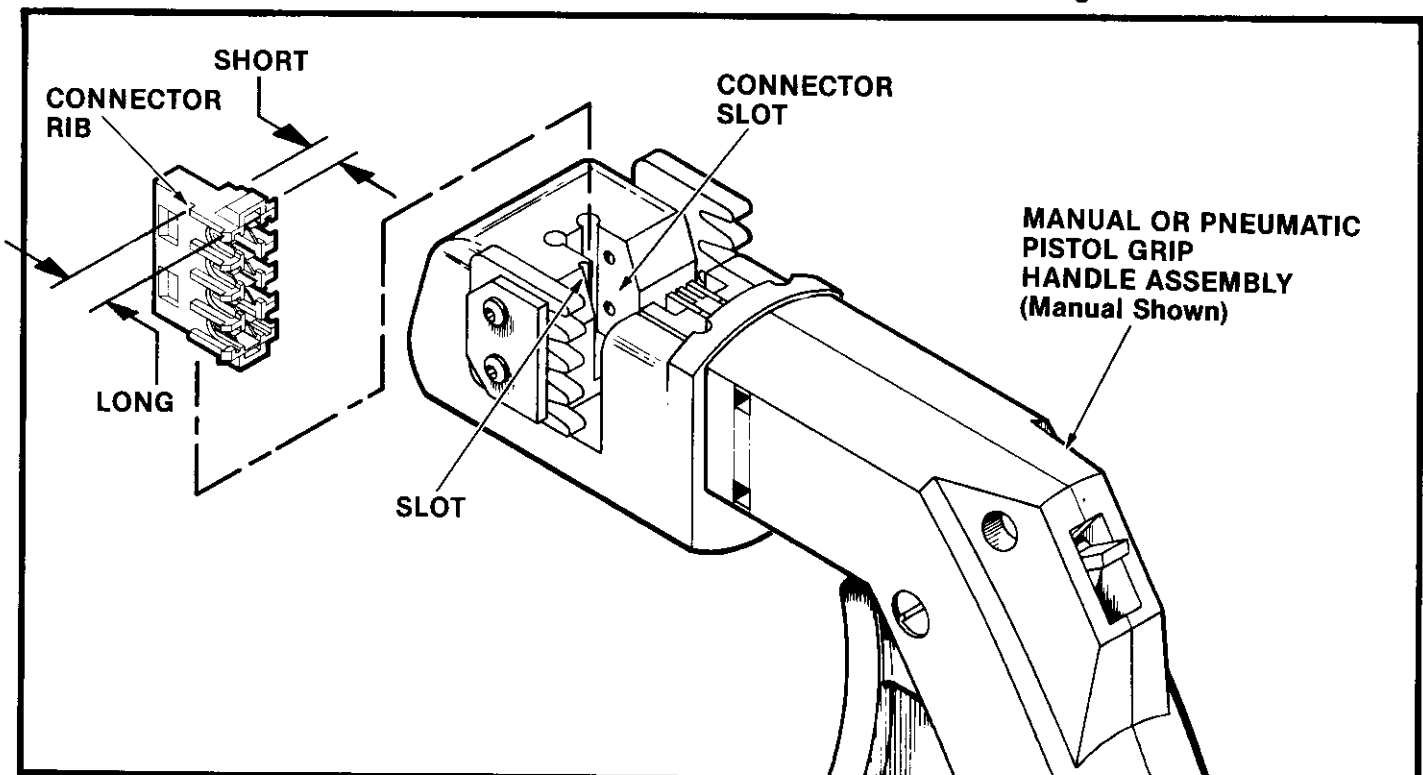

Fig. 3
4. TERMINATING PROCEDURE (Figure 3)